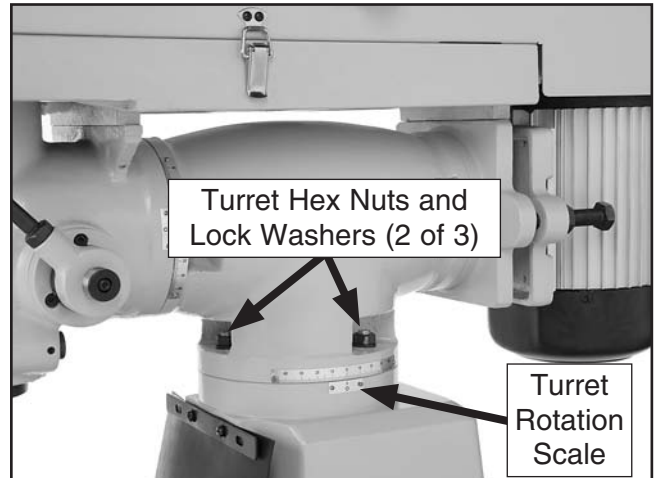

Figure 28. Turret rotation hex nuts and lock washers (2 of 3 shown).
2. Loosen the three hex nuts and lock washers on the turret (see **Figure 28**).